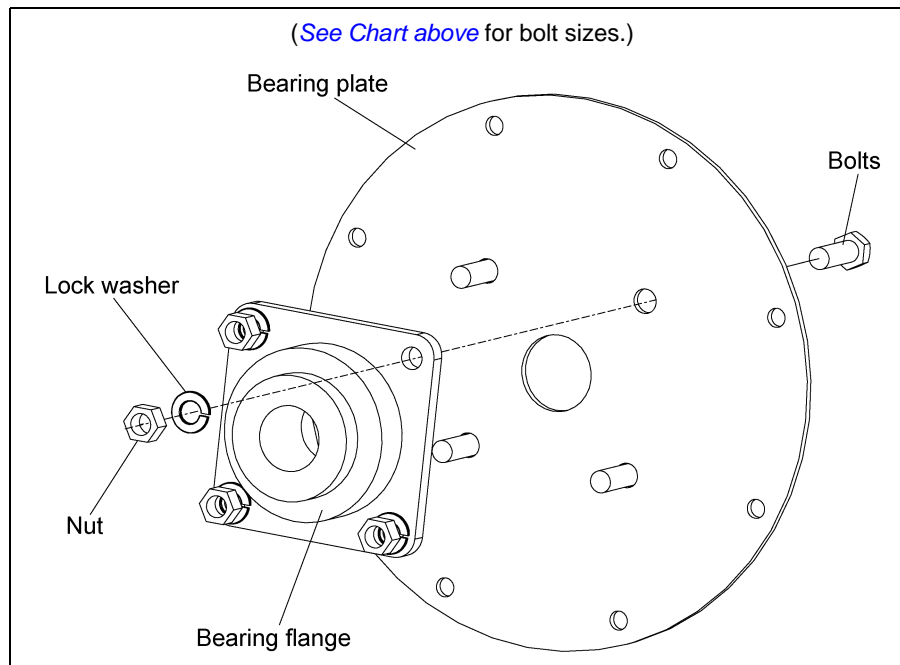

Figure 4H
- B. Secure bearing to bearing plate using appropriate bolts, lock washers, and nuts. (See Chart below and See Figure 4H.)